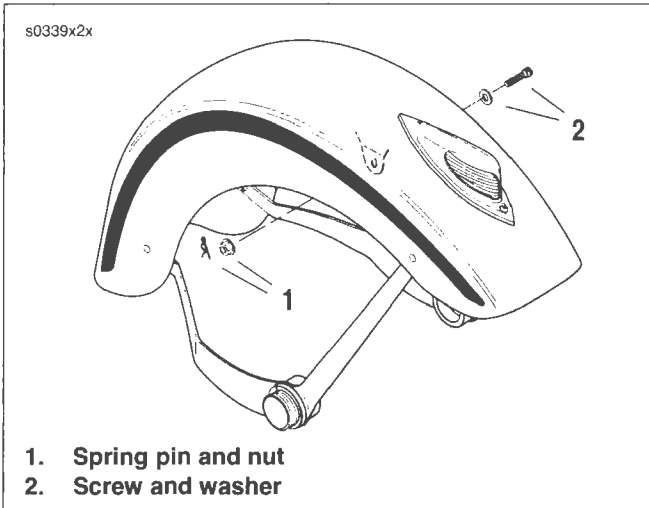

Figure 2-125. FLSTSC Fender Hardware
2. See Figure 2-125. Remove spring pin and nut (1) from screw that mounts fender to bracket.
4. Remove screw and washer (2) while supporting fender.
3. See Figure 2-125. Install screw, washer and **new** nut. Tighten to 18-22 ft-lbs (24.4-29.8 Nm).